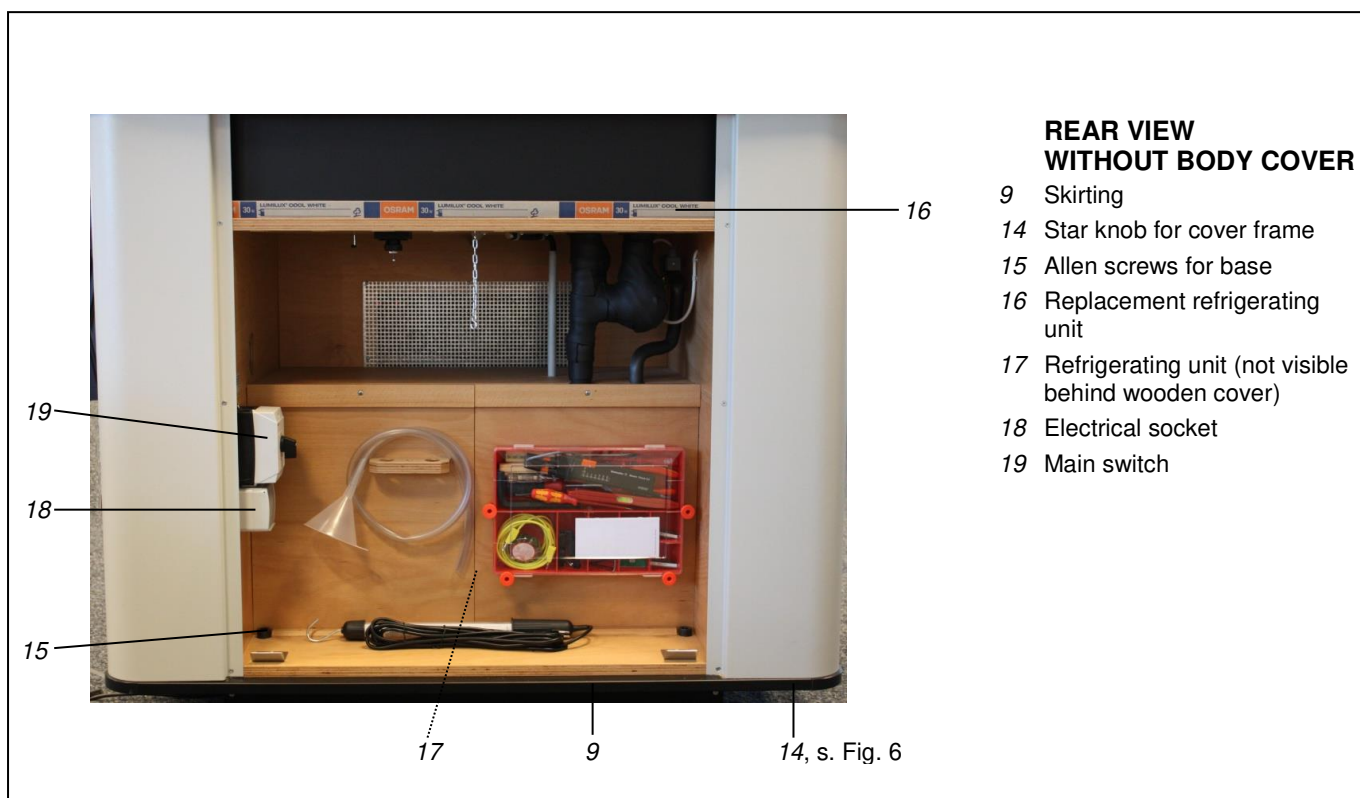

Fig. 4: Rear view of the diffusion cloud chamber without body cover.
Now open the back body cover (Fig. 4) to gain access to the refrigeration unit. This is contained in a further closed housing made of wood for sound proofing. The main switch (19) of the instrument is on the left outer wall. The electrical socket (18) below it is directly connected to current, so that the hand-held lamp (230 V) that is supplied can be used even with the instrument switched off. The cover frame (8) can be removed by undoing the star knobs (14) when the fluorescent lamps (16) are to be replaced.
1. Ensure that the alcohol reservoir (12) is filled with sufficient (min. 3 litres) isopropyl alcohol, PHYWE art. no. 30092-70. The alcohol must have a high level of purity (99% minimum). Observe section "8 Handling instructions for isopropyl" when doing so. Fill isopropyl alcohol into the alcohol reservoir using the funnel plus tube that is supplied. Close the isopropyl alcohol reservoir.
2. Now switch the cloud chamber on at the main switch (19, Fig. 4, left outer wall), operate the key-operated switch (60) and switch the two-way switch (56) to "down". Indicator lamp "manual operation" (56b) lights up.